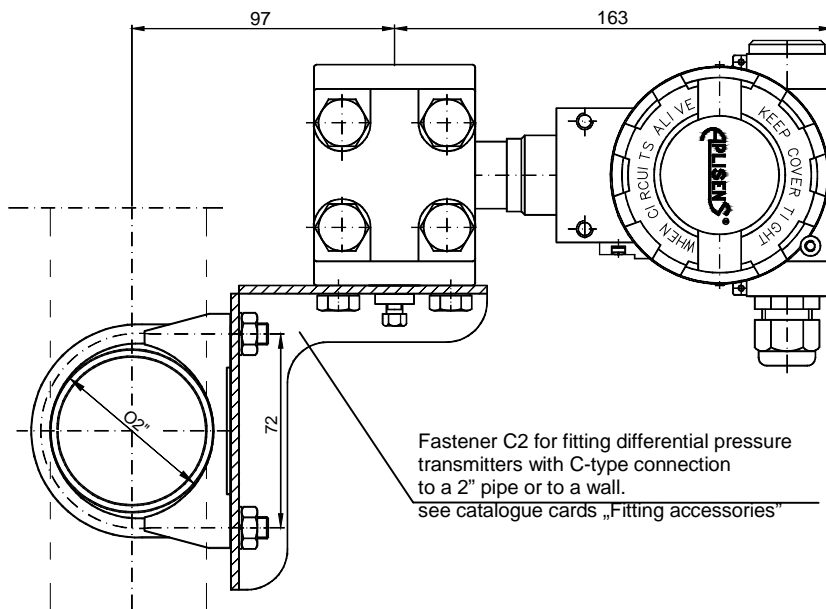

Fig.7. Example of mounting of APR-2000ALW Safety transmitter with type C connector.
7.2.2. Transmitters **APR-2000ALW Safety** with connector covers (type C connector) can be mounted on three- or five-way valve units to tube 2" or to flat surface, using C-2 holder (Fig.7).